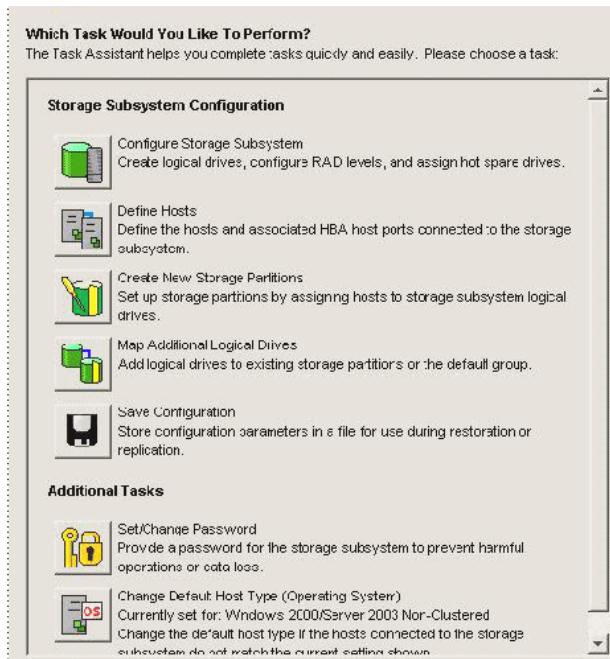

Figure 9-54 Subsystem Management Window Task Assistant window
23. After your host has been successfully created, click **No** to return the Subsystem Management Window Task Assistant window (Figure 9-54).